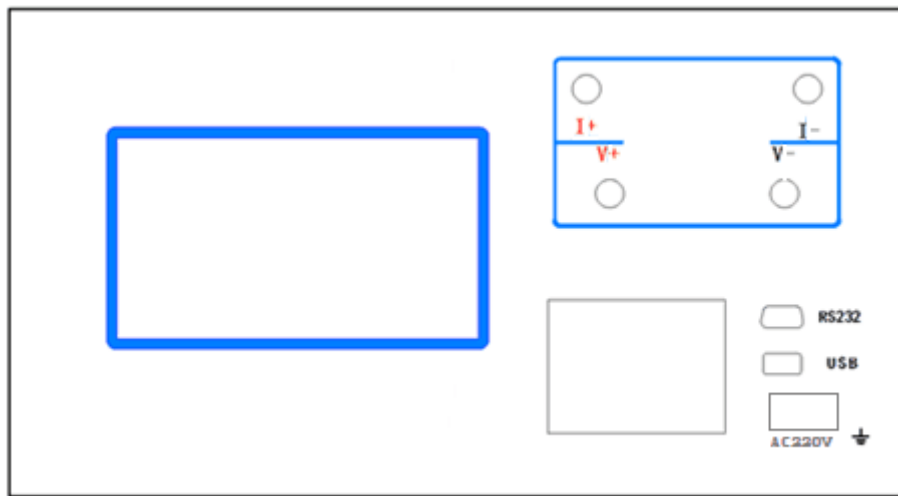

Figure 1
5. Click **Setting** in Figure 1 to enter the data view interface, as shown in Figure 10: